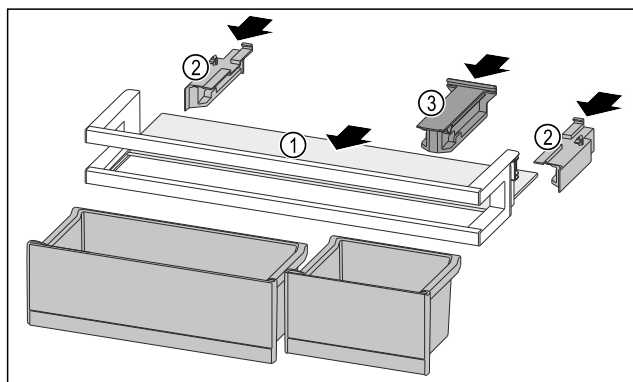

Fig. 140
- ▶ Push the shelf Fig. 140 (1) into the side recesses.
- ▶ Insert the side parts Fig. 140 (2).
- ▶ Insert the holding part Fig. 140 (3).